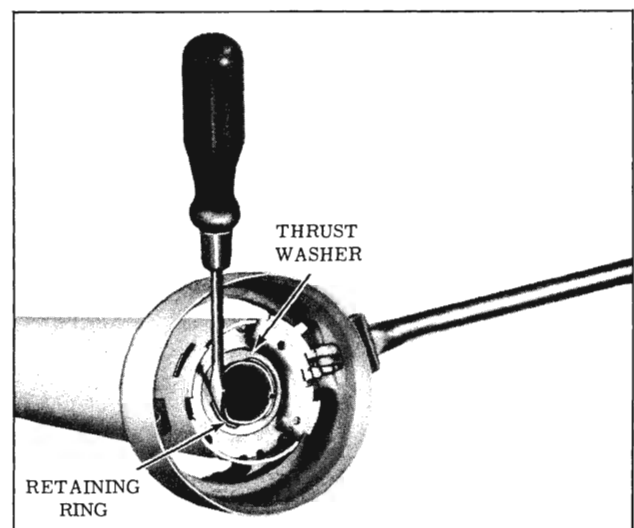

Fig. 4-96 Removing Shift Tube Upper Retaining Ring
2. Remove the shift tube retainer ring and washer from the top of the shift tube. (Fig. 4-96)